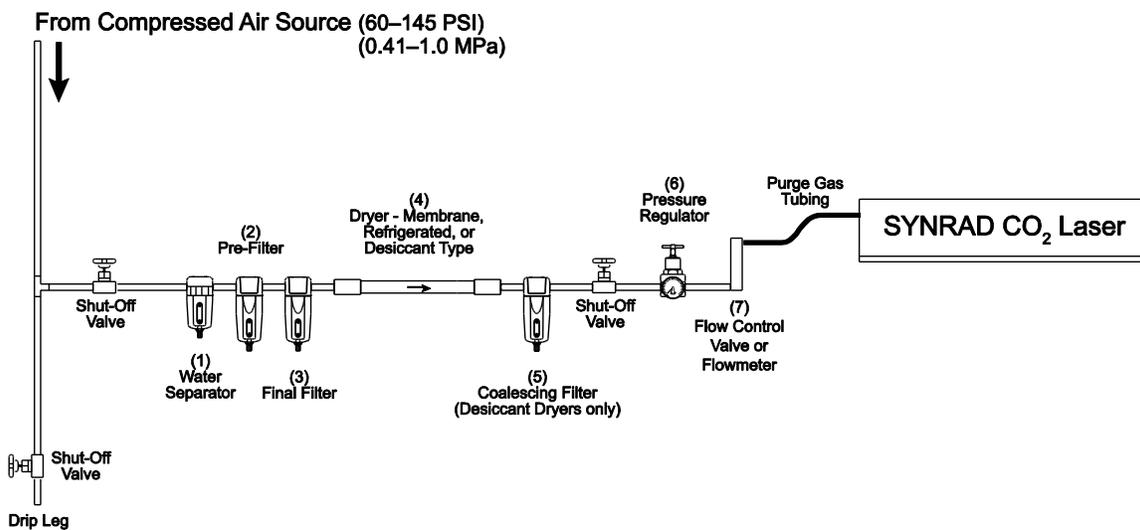

Figure 1 Conditioning compressed air for laser purge
Compressed air is widely available in most facilities; however it is usually contaminated by traces of oil and water vapor during the compression process. These contaminants must be removed before they reach the laser. Figure 1 illustrates the components required for conditioning compressed air in a laser application. The subsections below describe how to choose filtering and drying components necessary to condition compressed air for use as a laser purge gas. The numbered components in Figure 1 correspond to the item numbers in the subsections below.
The numbered items below correspond to the numbered components in Figure 1:
- Parker-Balston Compressed Air Membrane Dryer Assembly (120 SCFH), part number AD0020-40-DX. [Corresponds to Items 1, 2, 3, and 4 in Figure 1]
- Parker-Balston Compact Regulator (0-60 PSI), part number 06R116AC. [Corresponds to Item 6 in Figure 1]
- SMC Compressed Air Membrane Dryer Assembly (156 SCFH), part number IDG30LM3. [Corresponds to Items 1, 3, and 4 in Figure 1]
- SMC Regulator (0.7-29 PSI), part number IR1000-01. [Corresponds to Item 6 in Figure 1]